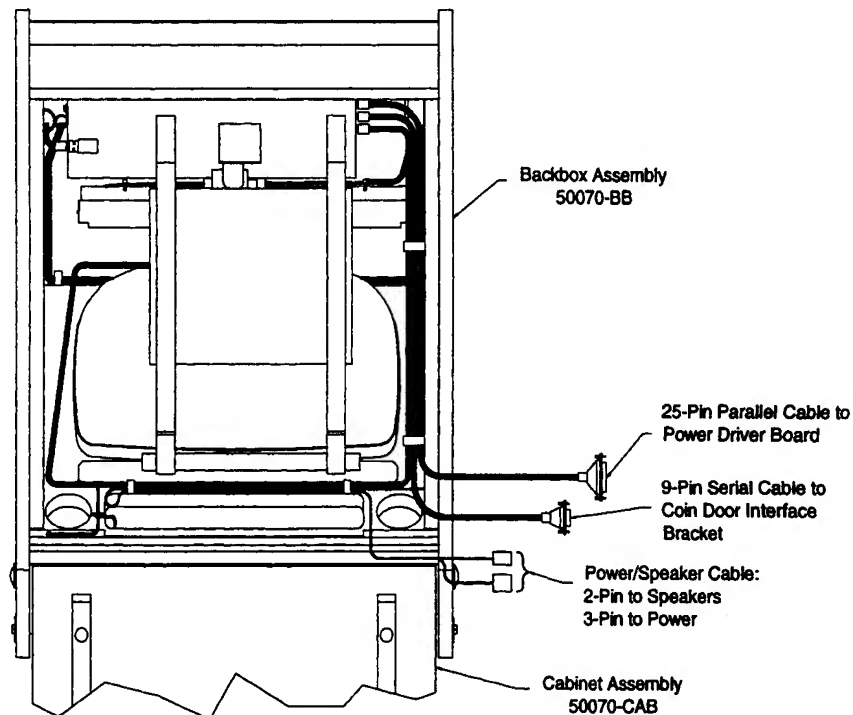

Figure 7
8. Stand the backbox upright. Unlock and remove the rear door. Pull the three cables out through the back door opening and let them hang down the rear of the backbox. See Figure 7.